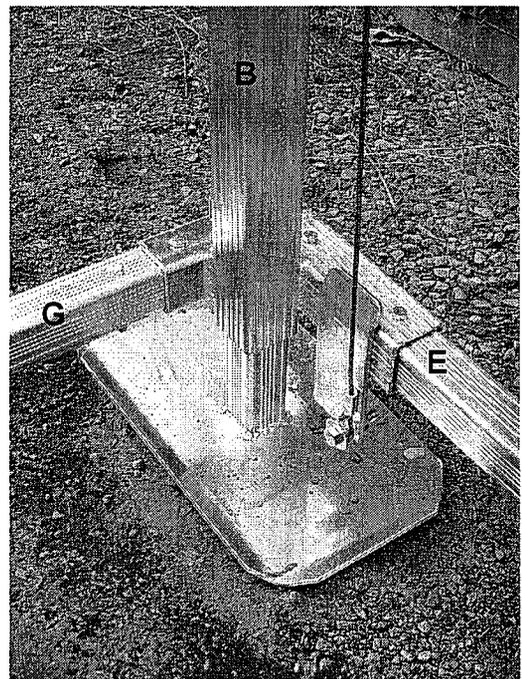

FIG. 24
1. Review FIG. 24, 25, 26 & 27. Note the two cable ends coming out of the top of the carriage assembly. Note that on the end of the cables there is a threaded stud, washer and nut.
5. Locate the two cables protruding out of the carriage side tube on the far side (See FIG. 24 & 25) and repeat the above steps on these two cables.